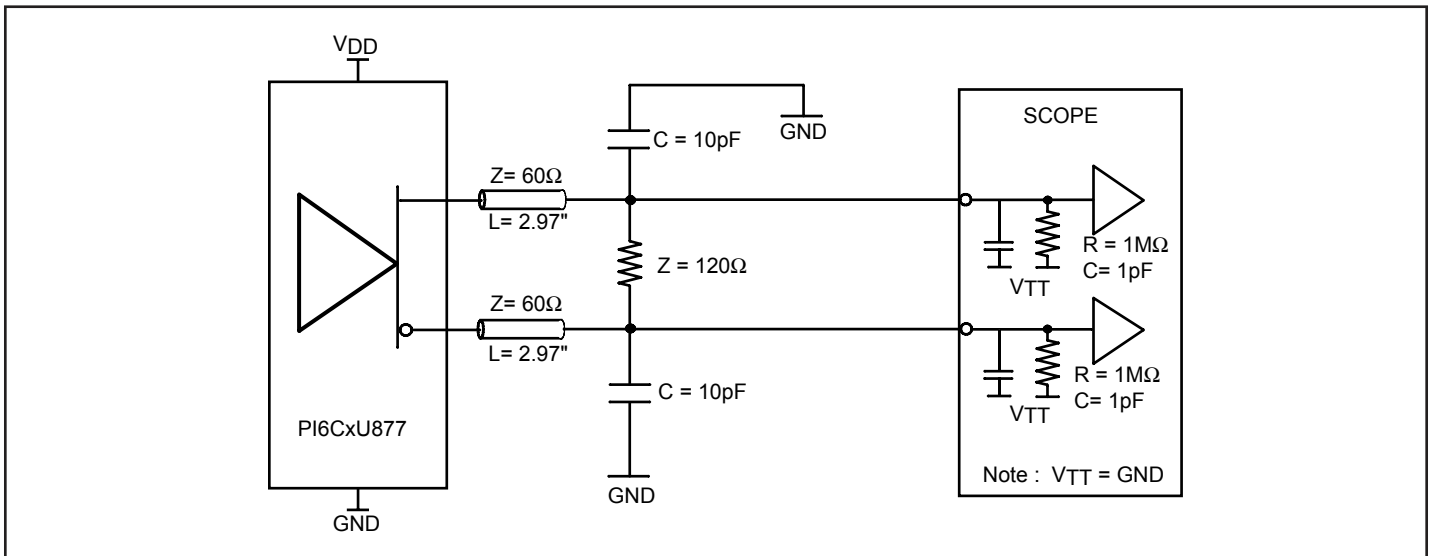

Figure 2. Output Load Test Circuit 1
15. There are two terminations that are used with the above ac tests. The load/board in Figure 2 is used to measure the input and output differential-pair cross-voltage only. The load/board in Figure 3 is used to measure all other tests. For consistency, equal length cables should be used.